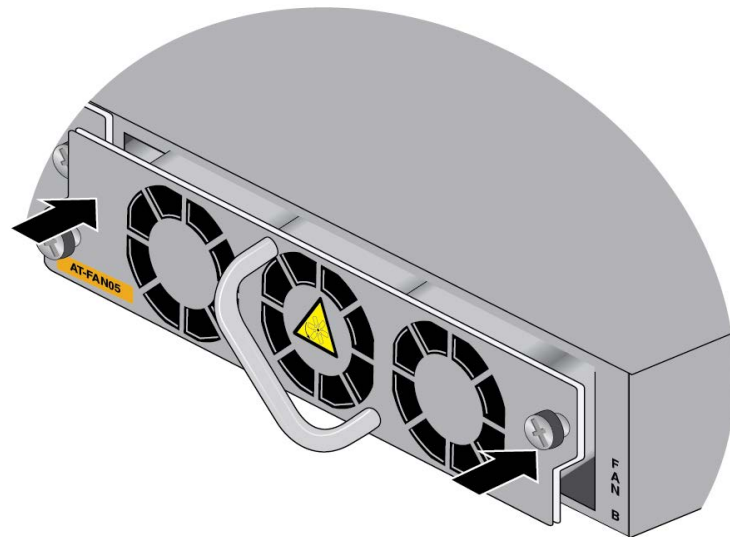

Figure 161. Seating the FAN05 Module on the Internal Connector
3. When you feel the module make contact with the internal connector, gently press on both sides to seat the module on the connector. Refer to Figure 161.